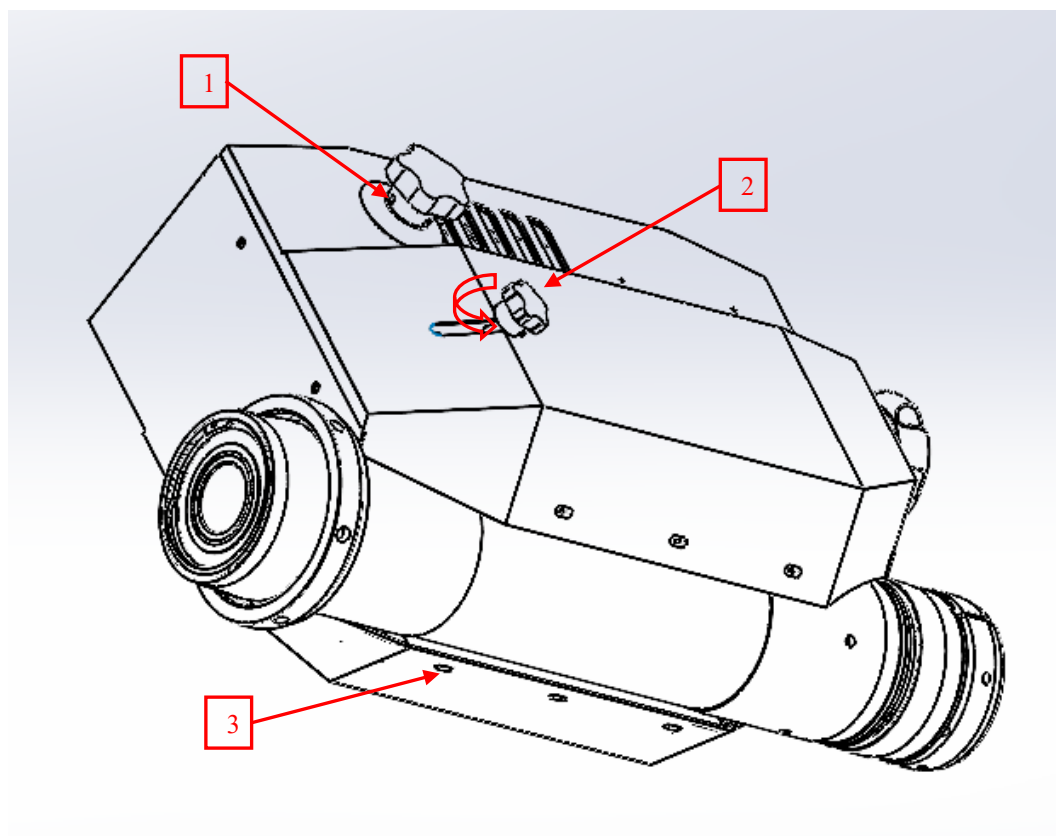

Figure 2.1
- 2.1.3 Unscrew the two locking grub screws shown in figure 2.1 – position 1 and pull out the gear lever;
- 2.1.4 Unscrew the welding engagement lever knob shown in figure 2.1 – position 2;
- 2.1.5 Unscrew the lower housing fixing screws, as shown in figure 2.1 – position 3;